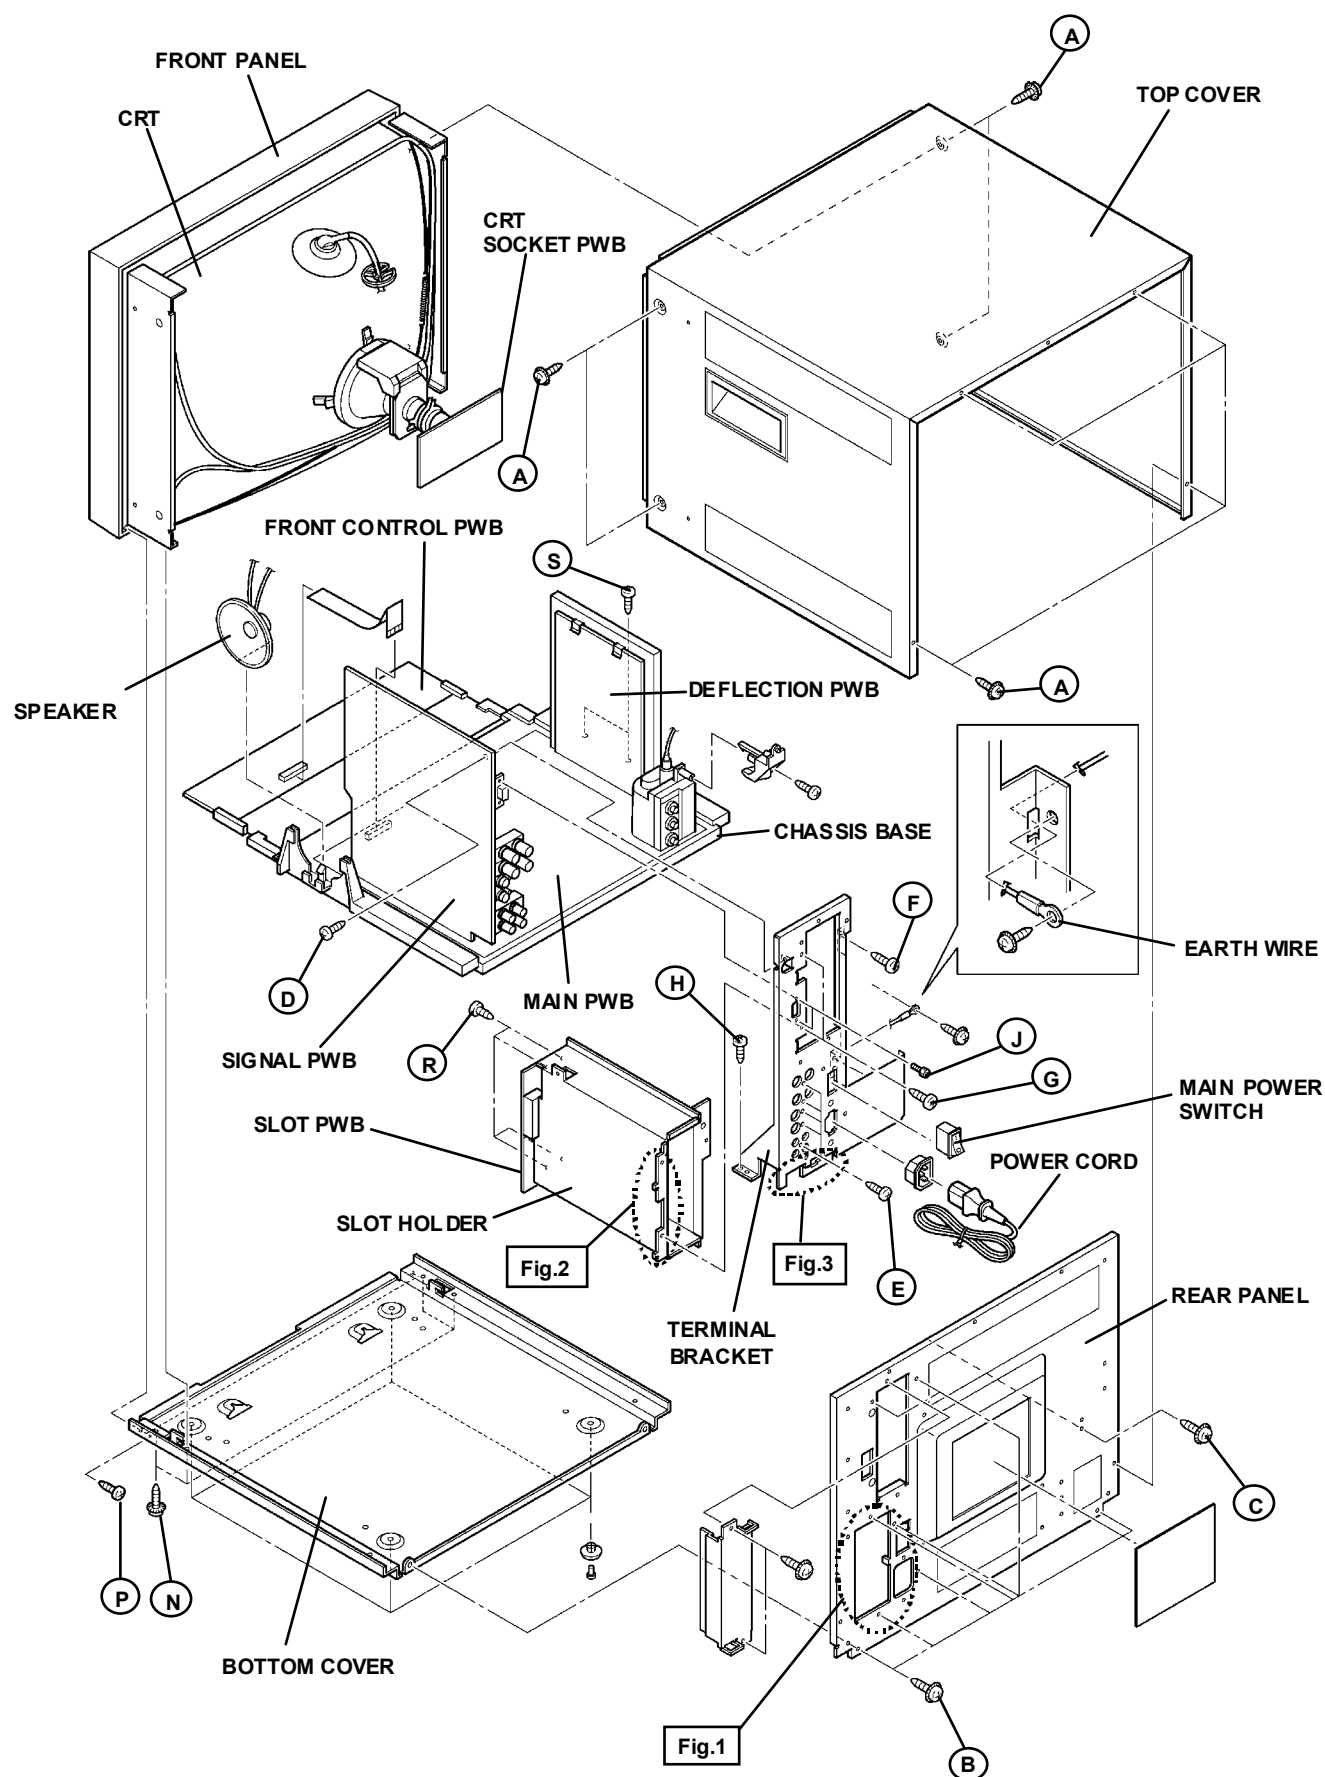

Fig.4
1. As shown in Fig.4, remove the 8 screws marked (A) .